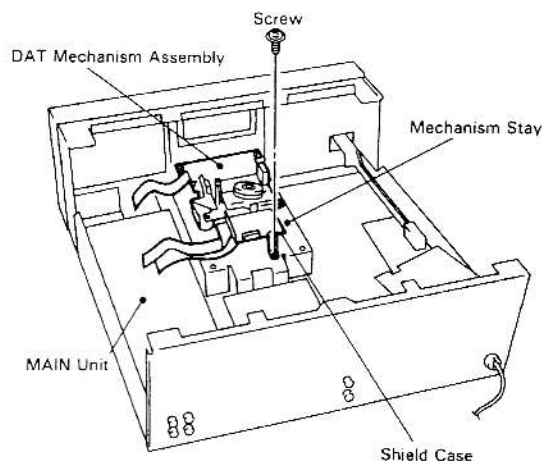

Fig. 2-3
3. Place the DAT mechanism assembly so onto the mechanism stay that the motor pulley at the lower surface is not in contact with anything, and fix the shield case of the DAT mechanism assembly with a screw. (Refer to Fig. 2-3)
2. DATメカASSY下面のモータープーリーが他に触れないようにメカステイの上にのせ、DATメカASSYのシールドケースをネジで固定する。(図2-3参照)